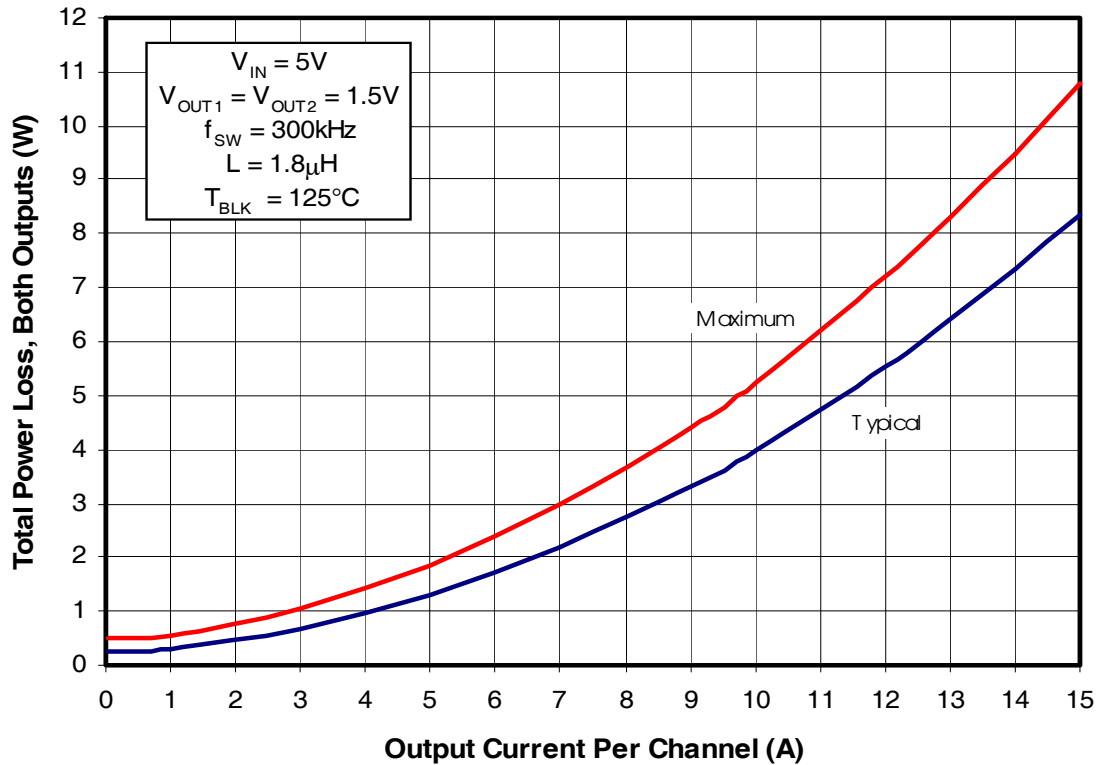
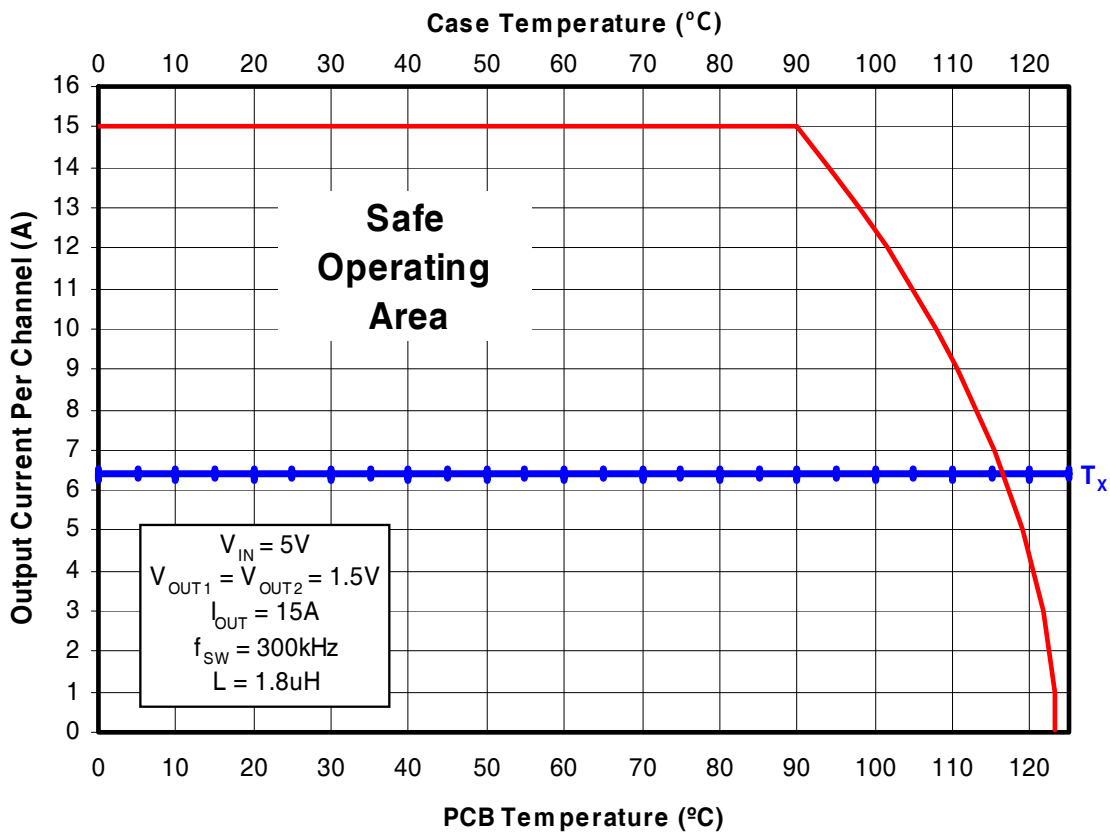
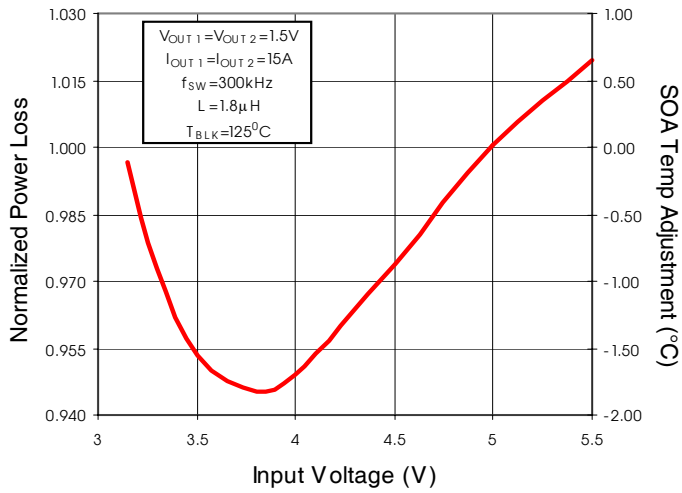

Fig. 2: Power Loss vs. Current
Fig. 3: Safe Operating Area (SOA) vs. T_{PCB} & T_{CASE}
Fig. 4: Normalized Power Loss vs. V_{IN}
To make adjustments to the power loss curves in Fig. 2, multiply the normalized value obtained from the curves in Figs. 4, 5, 6 or 7 by the value indicated on the power loss curve in Fig. 2. Remember that the power loss in Fig. 2. is the power loss for 2 outputs operating with the same output voltage. If differing output voltages are used the initial power loss for each channel needs to be divided by 2. Then if multiple adjustments are required, multiply all of the normalized values together, then multiply that product by the value indicated on the power loss curve in Fig. 2. The resulting product is the final power loss based on all factors. See example no. 1.
To make adjustments to the SOA curve in Fig. 3, determine your maximum PCB Temp & Case Temp at the maximum operating current of each iP1201PbF. Then, add the correction temperature from the normalized curves in Figs. 4, 5, 6 or 7 to the T_x axis intercept (see procedure no. 2 above) in Fig. 3. When multiple adjustments are required, add all of the temperatures together, then add the sum to the T_x axis intercept in Fig. 3. See example no. 2.
- Output1 (Fig. 2) Maximum power loss = $5.3W / 2 = 2.65W$
(Fig. 4) Normalized power loss for input voltage ≈ 0.97
- Output2 (Fig. 2) Maximum power loss = $8.25W / 2 = 4.13W$
- Output1 (Fig. 4) Normalized SOA Temperature for input voltage $\approx -1.0^{\circ}C$
- Output2 (Fig. 4) Normalized SOA Temperature for input voltage $\approx -1.0^{\circ}C$